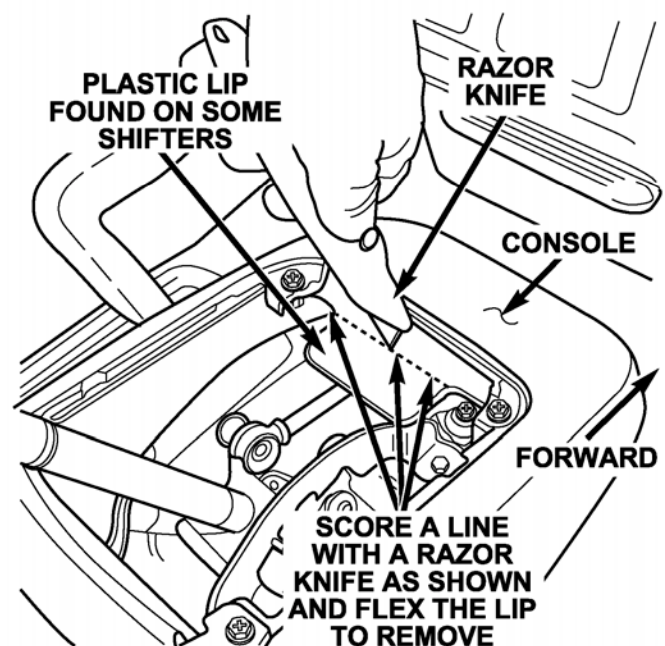

Figure 1
5. Some vehicles may have an additional plastic lip on the console bracket (Figure 1). If this lip is present, score the lip with a razor knife as shown in Figure 1 and then flex the lip to detach it from the console bracket. Discard the lip, it is not required for proper shifter function.